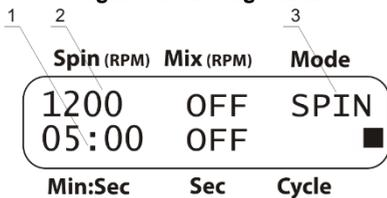

Figure 5. Centrifugation
5.11.1 Select the centrifugation mode (indication **SPIN** of **Mode** parameter, fig. 5/3).
5.11.2 Set the required centrifugation speed, from 300 to 1500 rpm (increment 100 rpm, fig. 5/2)
5.11.3 Set the required centrifugation time, from 1 s to 30 min (increment 1 s, after 1 min - 1 min, fig. 5/1).